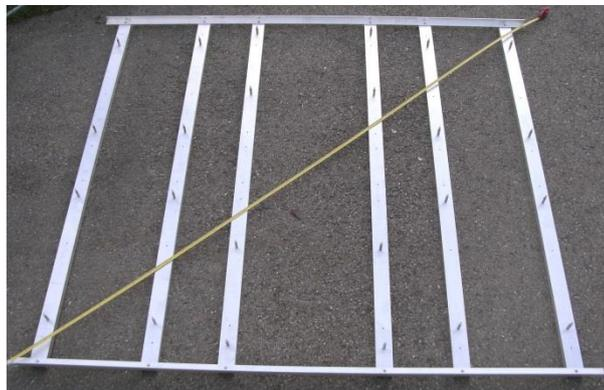

Figure 8 Check of the supporting frame
5. Measure the lengths of the diagonals of the frame and skew if necessary to the same lengths, 372 cm/146.46 in (see Figure 8).